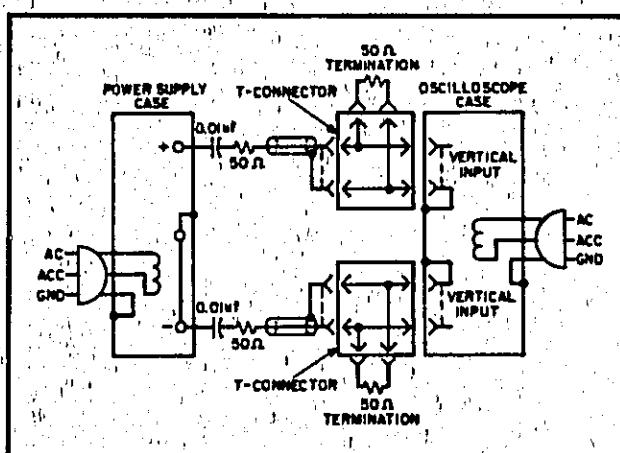

Figure 5-7. CV Noise Spike, Test Setup
1. As shown in Figure 5-7, two coax cables, must be substituted for the shielded two-wire cable.
5-33 The circuit of Figure 5-7 can also be used for the normal measurement of low frequency ripple and noise; simply remove the four terminating re-
sistors and the blocking capacitors and substitute a higher gain vertical plug-in in place of the wide-band plug-in required for spike measurements. Notice that with these changes, Figure 5-7 becomes a two-cable version of Figure 5-6C.